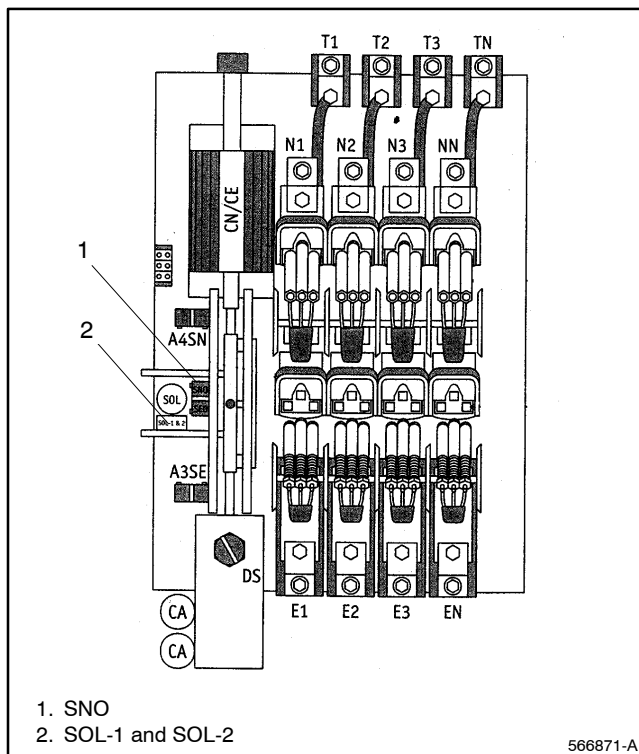

Figure 50 40-260 Amp Contactors
39. Find switches SOL-1, SOL-2, and SNO-1, located on the left side of the contactor assembly. See Figure 50.